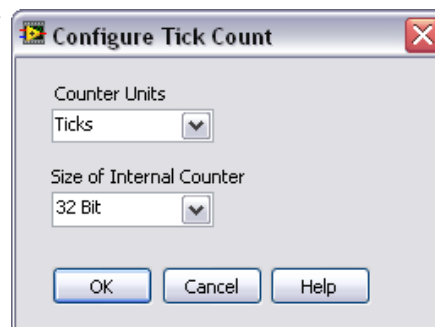

Figure 5-5. Configure Tick Count
- In the Configure Tick Count dialog box, set Counter Units to **Ticks**, as shown in Figure 5-5, and click **OK**.